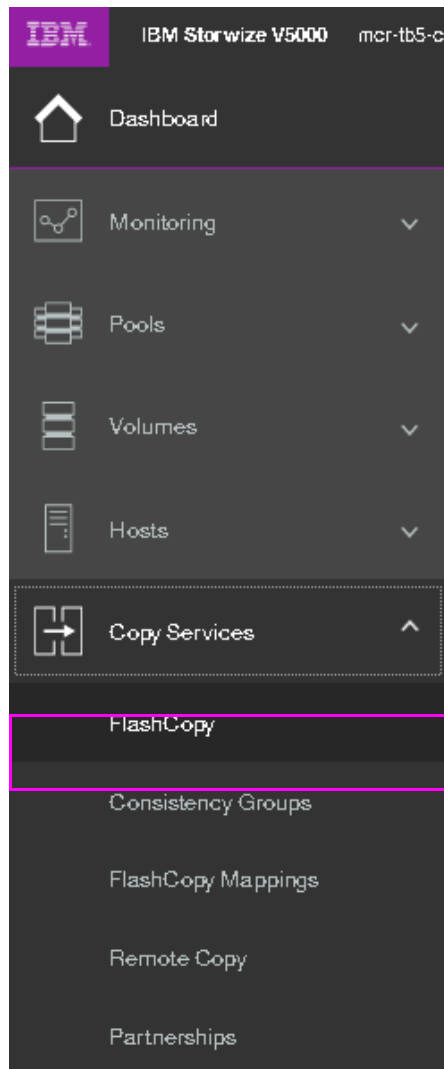

Figure 10-10 FlashCopy pane
- Use the main pane. Move the mouse pointer over Copy Services in the dynamic menu and click **FlashCopy**, as shown in Figure 10-10.